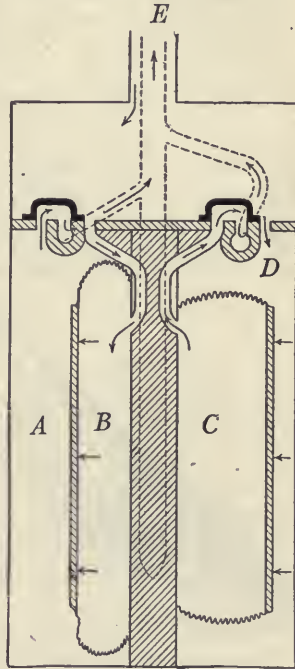

FIG. 51.—Cross-section of a gas meter showing its construction and action.
69. The Gas Meter.—The gas meter consists of a box divided into two parts by a vertical partition (Fig. 51). Two bellows are attached to this partition, one on each side. The valves that regulate the flow of gas to and from the bellows and the chambers *A* and *D* are opened and closed by levers connected with the bellows. These levers also operate the hands upon the dials. When the inlet to the bellows *B* is opened, the outlet of *A* is also opened. Gas entering *B* opens the bellows and forces the gas in *A* out into the house-pipe *E*. When *B* is full its inlet valve closes and its outlet valve opens. The inlet of *A* also opens and its outlet closes. Gas now flows into *A*, compressing the bellows and *B*, and forcing the gas from it into the house-pipe. At each filling of the bellows *B* there will be displaced from *A* and forced into the house-pipe as much gas as enters *B*. It is evident that at each emptying of *B* an equal amount of gas enters *A*. Thus we have *A* and *B* alternately filling and emptying as long as the gas burner is open. To have a continuous flow of gas in the house-pipes two pipes and two chambers are